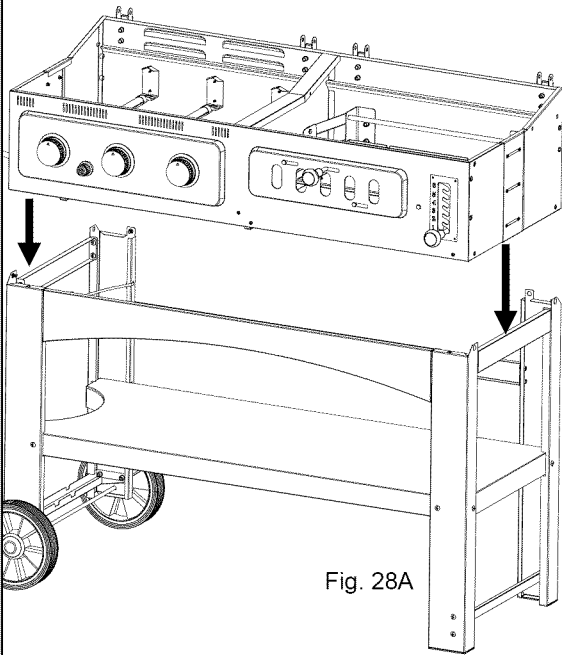

Fig. 28A
*Locate:* (6) M6x12 bolts, (2) M5x10 bolts, Match Holder and Chain
*Procedure:* Place the Gas and Charcoal Grill Cabinet on top of the cart as shown as Fig. 28A.